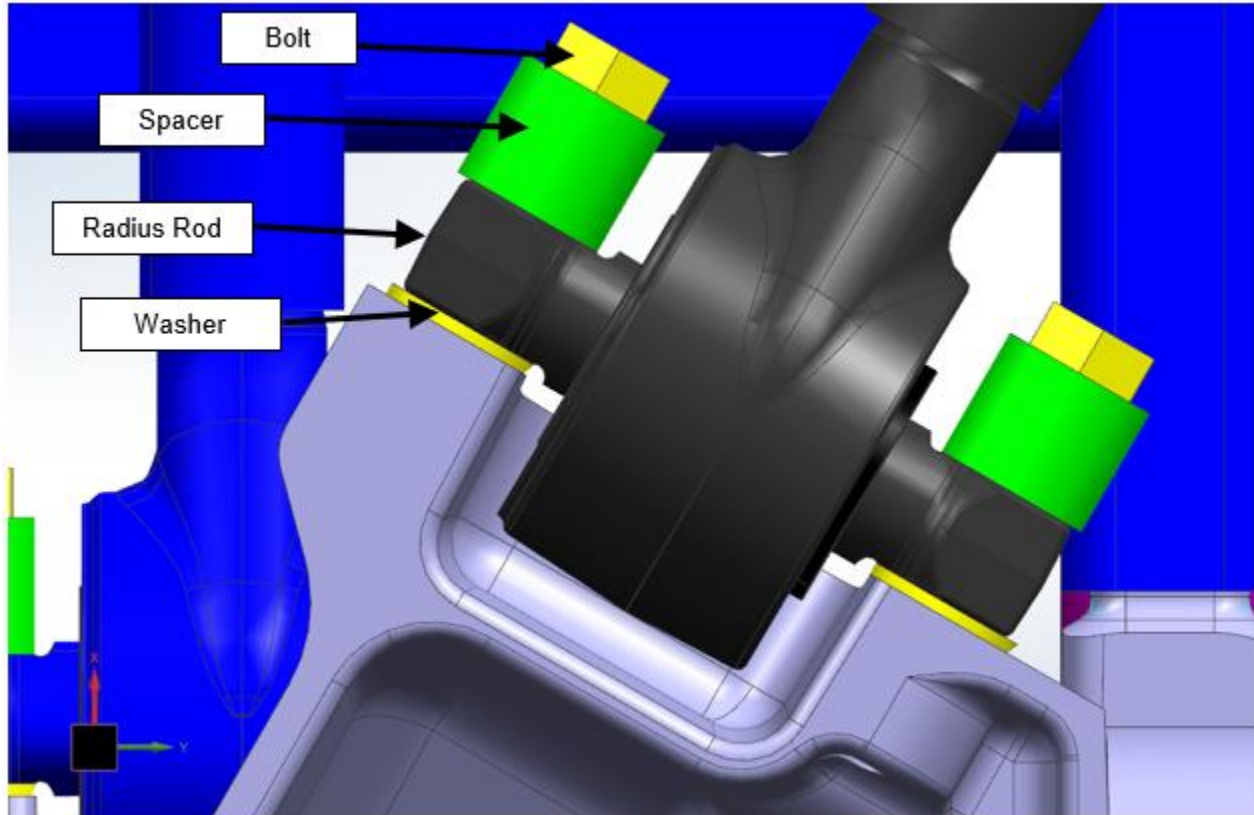

Figure 3: Radius Rod Hardware Stack Up
5. Ensure the lower radius rod mounting holes in the casting are clean and free from any debris. Fasten the radius rod to the center axle radius rod support casting using two washers (NF PN 6407959), two spacers (NF PN 6490019) and two bolts (NF PN 6490020) per radius rod end. Apply a thin layer of Never Seize (NF PN 5928660) to the mounting surfaces of the washers, spacers and to the entire length of the bolt and under the bolt head. Ensure only a thin layer is applied and wipe off any excess. Assemble bolted connection as shown in Figure 3 and torque the hardware to 300Ft/Lbs.